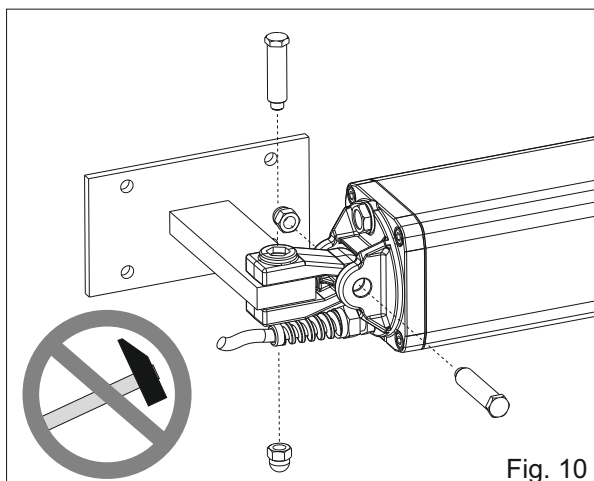

Fig. 10
- Fix the oscillating fork as in fig.10.